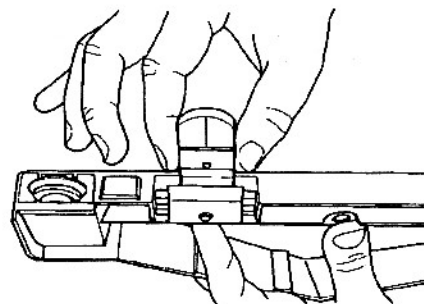

Fig. A-43
51. Insert the cursor holding plate and cursor lens. Align the scribed line on the cursor lens with the center of the cursor screw, as seen in Fig. A-43. The scribed line must be on the bottom side of the cursor lens.